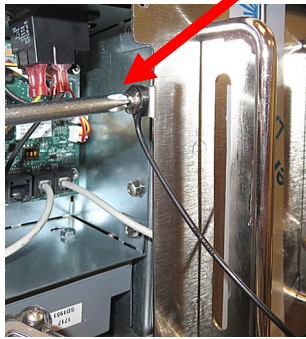

Figure 7
8. Disconnect the lanyard tether from the frame (see Figure 7).